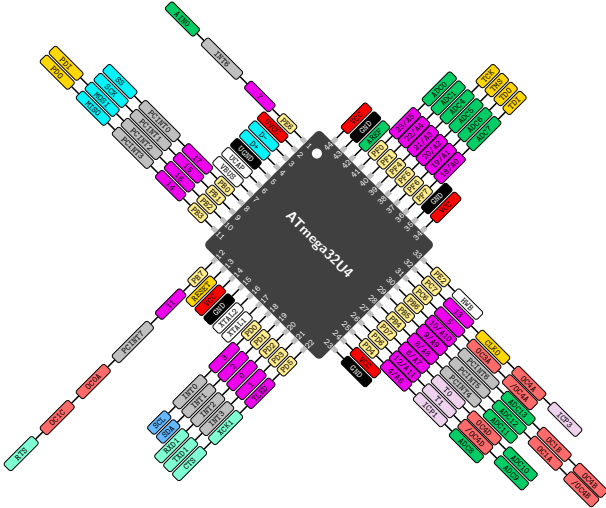

Figure 3: Pinout of the ATmega32U4 microcontroller.
- out of the 26 GPIO pins of the ATmega32U4 (see Fig. 3) only 18 are available
The real obstacle came then when looking at the pinout of the ATmega32U4 itself, see Fig. 3. To my surprise the pins on the 44-pin package of the chip were by far not as nicely sorted as on an ATmega16, ATmega328 or ATmega644, to which I was used from the past. Just as an example, why are the pins from port D not sorted in order, but rather pins PD4 and PD5 are swapped? Why are three pins from port B on the wrong side of the package?